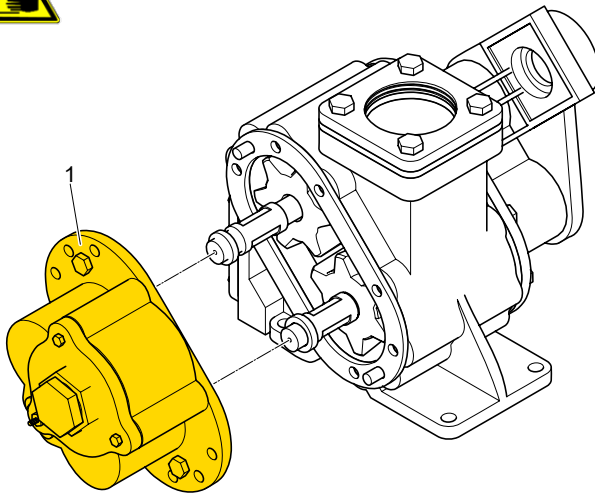

Figure 4: Pump Valve Housing
4. Reinstall the Pump Valve Housing [1]. (Fig. 4)